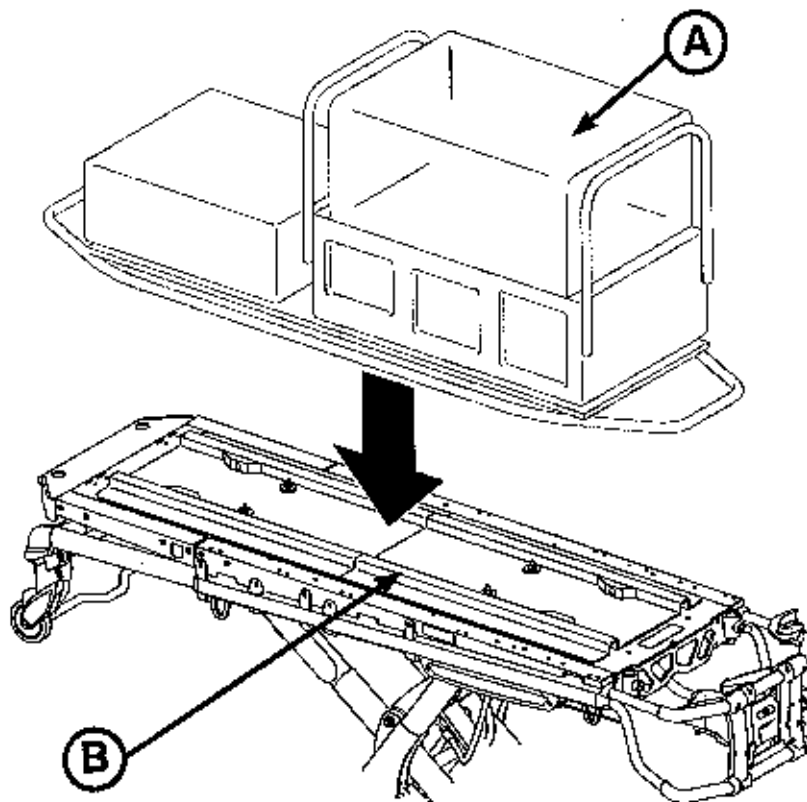

Figure 42: Air Sled Installation
1. Use the supplied fasteners to bolt the receptacle to the litter frame as shown in Figure 42.
2. Insert the Air Sled (A) into the receptacle (B) by using the latching system that is included as part of the Air Sled apparatus.